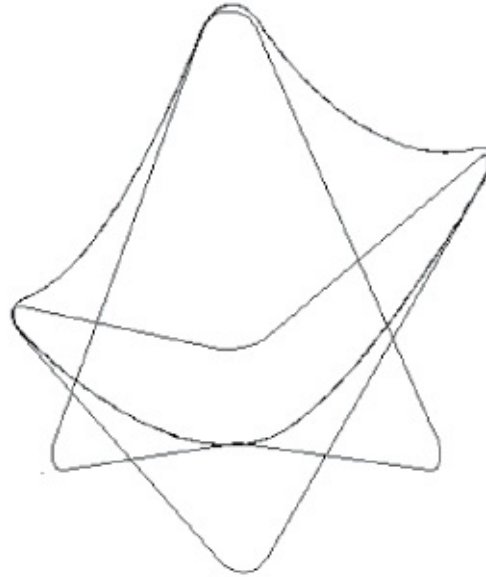

FIGURE 21.41 Drawing the circles for the tubes
7. Delete the two polyline splines that you used to form the sides of the seat, along with the curves used for the front and back. Your drawing should look like Figure 21.41.
1. Draw a 3/8" (0.95 cm) radius circle in the location shown in Figure 21.41. Don't worry if your location is a little off; the placement of the circle isn't important.
2. Use the Rectangular Array command to make 15 copies of the circle. In Figure 21.41, a 4×4 array is used with the default 1" spacing. Metric users should use a spacing of about 30 cm. Use the Explode command in the Home Tab's Modify panel to convert the circles from an associative array to regular circles. Start the Explode command, and select the circles ↵.